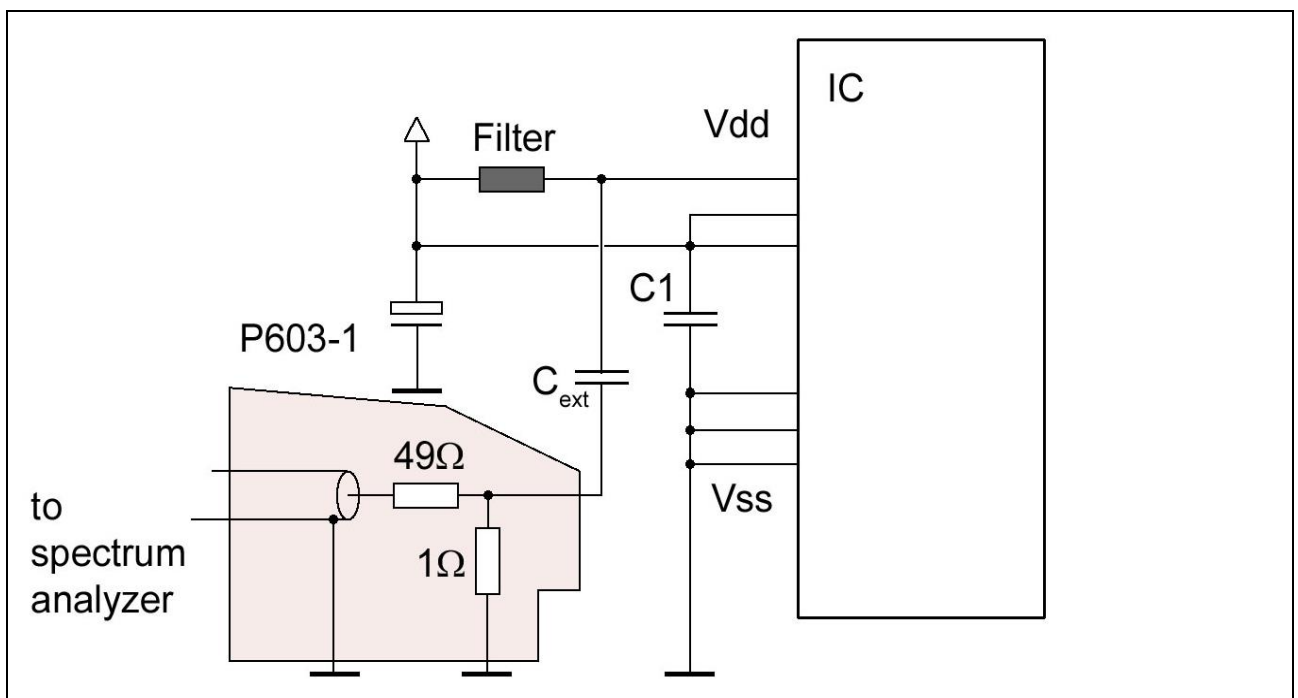

Figure 7: P603-1, current measurement on a single Vdd pin with external DC-decoupling.
3. Current measurement (P603-1) on a single Vdd pin (with external capacity), **Figure 7**